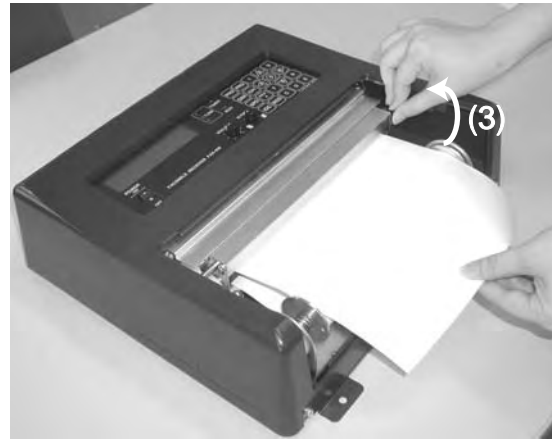

Figure 4
4. Pull the paper feed lever upward. Draw out the paper so that it will be a little past the front of the unit. See Figure 4.